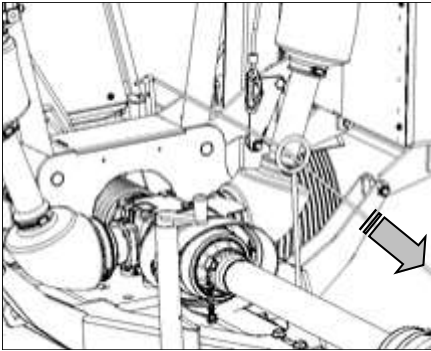

Fig. 33
12. Pull on the transport lock release rope while operating the auxiliary hydraulic lever to **raise** the mower decks. This will allow the release mechanism to operate (Fig. 33).